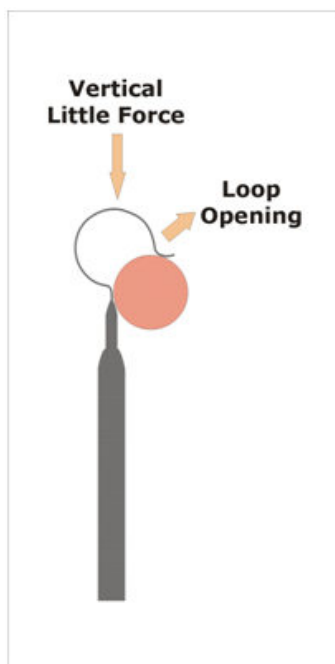

Figure 1
1. The loop attaches to Incus by applying an easy Vertical little force which opens loop. (Figure 1).